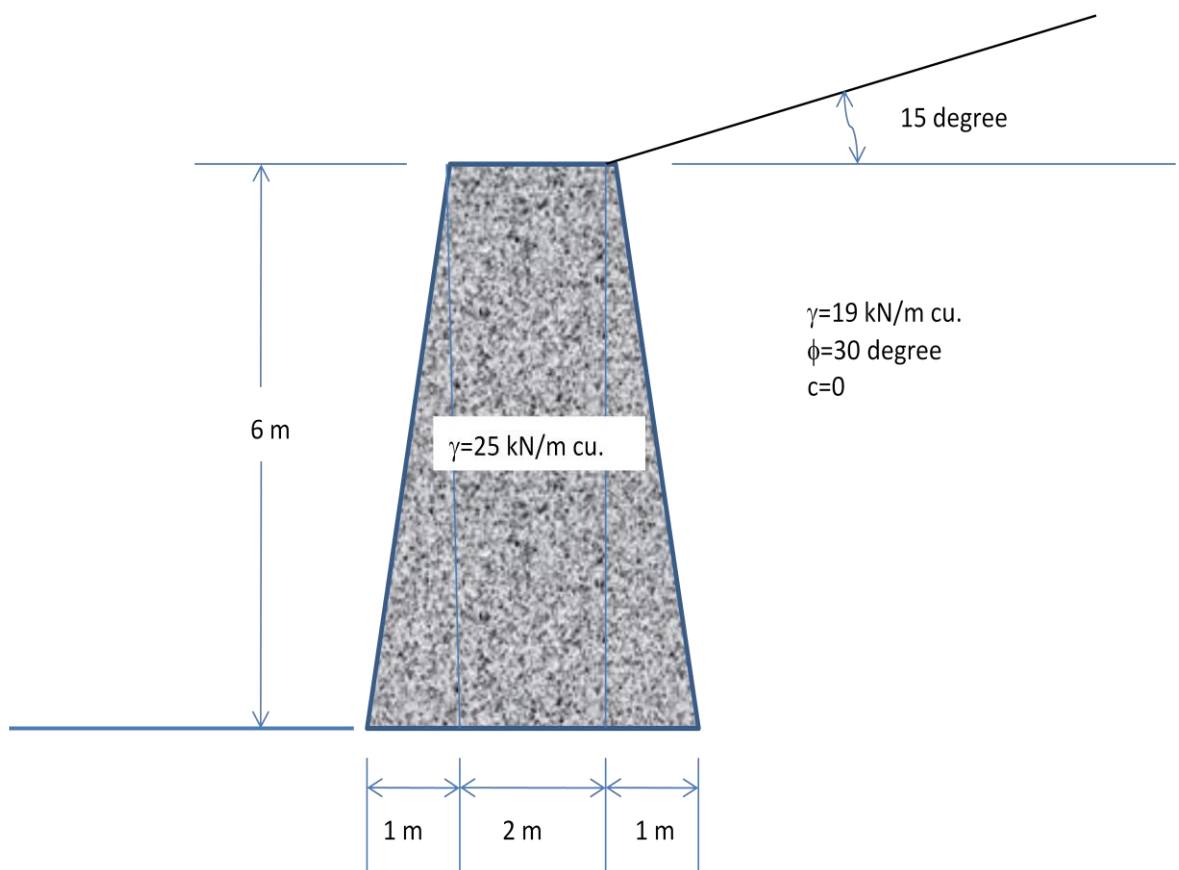

Figure 2
5. The retaining wall shown in Figure 2 is planned to be of concrete with unit weight as given. The soil to be retained is sand with properties as given. The coefficient of base friction is 0.55. The ultimate bearing capacity of foundation is 700 kPa. Check the Factor of Safety against